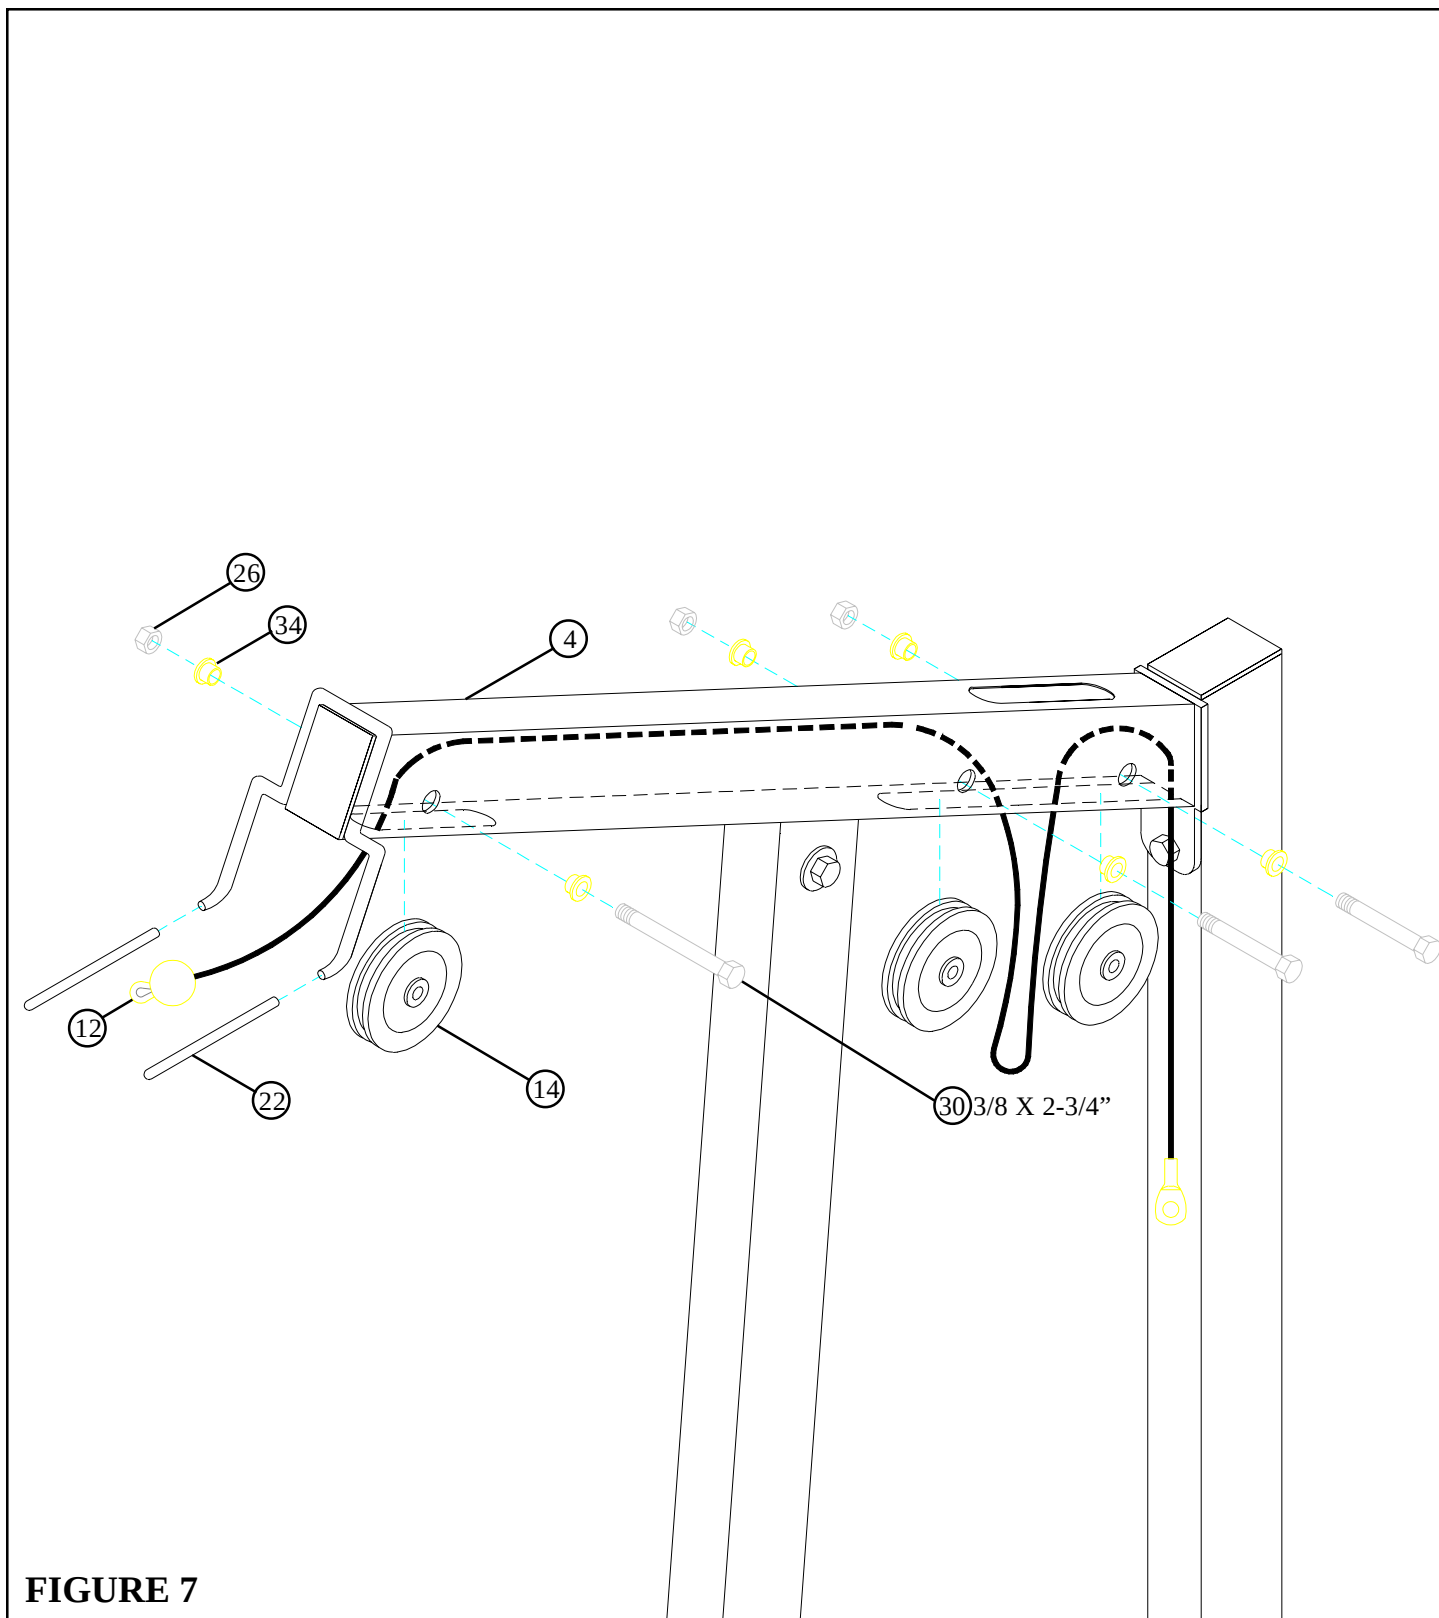

FIGURE 7
- Route the CABLE (12) through the TOP BOOM (4) as shown in FIGURE 7.
- **SECURELY** assemble three 3-1/2" PULLEYS (14) to the slots in TOP BOOM (4) using three 3/8 X 2-3/4" BOLTS (30), six 3/8" FLANGE SPACERS (34), and three 3/8" LOCK NUTS (26) as shown in FIGURE 7. (**NOTE: Make sure the cable is routed over all the pulleys.**)
- Slide two 5" VINYL CAPS (22) over the lat bar holder bracket on the TOP BOOM (4) as shown in FIGURE 7.